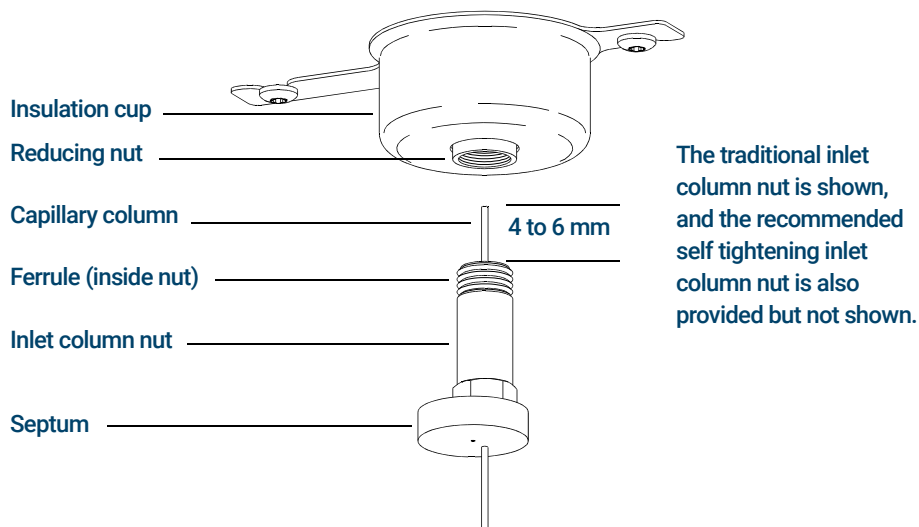

Figure 4. Installing a capillary column for a split/splitless inlet
- 7 Position the column so it extends 4 to 6 mm past the end of the ferrule. (See **Figure 4**.)